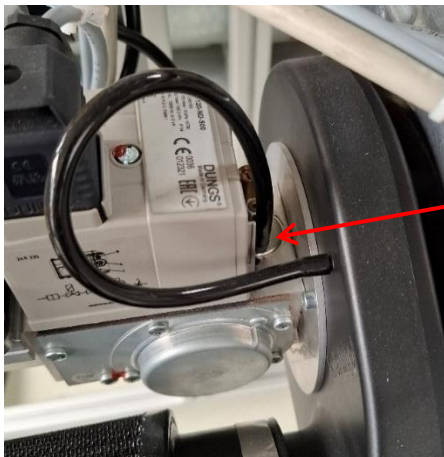
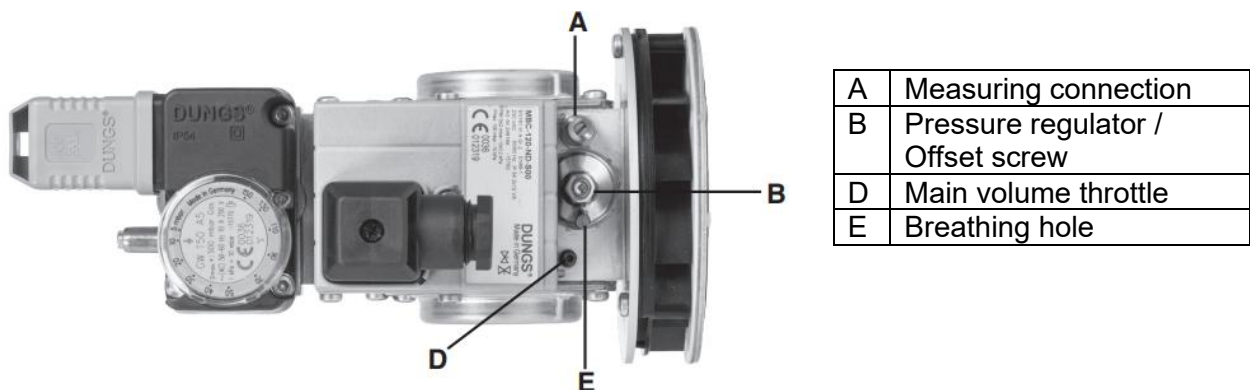

Figure 5: Compensation hose on the MBC
Figure 6: MBC Connections
The gas volume is set to the required flow on the MBC at the integrated main volume throttle D and via the offset B (see *Figure 6*). The procedure for setting the main volume throttle on the MBC is described in *5.4 Commissioning* and *6 Manufacturer settings*. Further information can be found in the MBC documentation.
In the standard version of the HeatEngine, the MBC acts as a constant pressure regulator. To compensate for influences such as a dirty air filter in the combustion air blower, a connection must be established between the MBC and the supply air collector. To do this, the MBC's vent (see *Figure 6*, vent E) must be connected to the blower pressure via a compensation hose. The attached hose can be seen in *Figure 5*. The maximum gas volume is adjusted to the air volume.
- Run the burner to MAX (high load) and check the flame matrix. If the flame matrix is glowing/incandescent, immediately increase the gas flow rate at the main throttle valve **D** of the MBC (see *Figure 6*). The blower output is set by the MPA parameter 246 *Maximum speed* determined. The gas quantity can be determined by a gas meter, a gas counter or a measuring orifice in the gas supply line